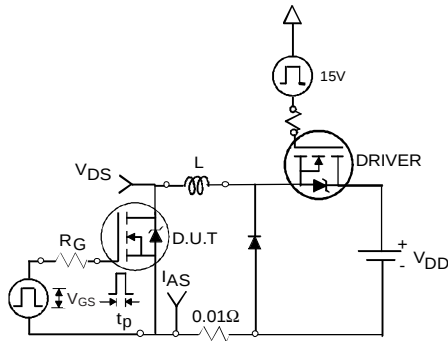

Fig 12a. Unclamped Inductive Test Circuit
- ② Limited by T_{Jmax} , starting $T_J = 25^\circ\text{C}$, $L = 0.077mH$, $R_G = 25\Omega$, $I_{AS} = 51A$, $V_{GS} = 10V$. Part not recommended for use above this value.
- ③ $I_{SD} \leq 51A$, $di/dt \leq 260A/\mu s$, $V_{DD} \leq V_{(BR)DSS}$, $T_J \leq 175^\circ\text{C}$.
- ④ Pulse width $\leq 1.0ms$; duty cycle $\leq 2\%$.
- ⑤ $C_{oss \text{ eff.}}$ is a fixed capacitance that gives the same charging time as C_{oss} while V_{DS} is rising from 0 to 80% V_{DSS} .
- ⑥ Limited by T_{Jmax} , see Fig.12a, 12b, 15, 16 for typical repetitive avalanche performance.
- ⑦ This value determined from sample failure population. 100% tested to this value in production.
- ⑧ This is applied to D²Pak, when mounted on 1" square PCB (FR-4 or G-10 Material). For recommended footprint and soldering techniques refer to application note #AN-994.
3. Equation below based on circuit and waveforms shown in Figures 12a, 12b.